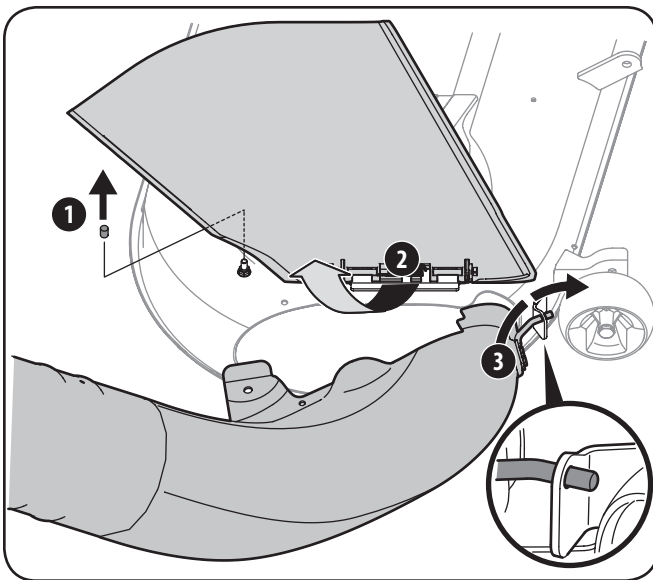

Figure 4-14
Determine if your deck is a newer model, or an older model. Refer to (1) in Figure 4-14. If your deck has a mounting stud present, then you have a newer deck model and you should refer to the instructions that follow. If no stud is present, refer to the instructions titled **On Tractors With Older Deck Configurations** later in this section.
2. If present, remove the protective cap off of the mounting stud on the mowing deck as shown in (1) of Figure 4-14.
3. With the tractor's discharge chute raised up and held open (2), install the chute elbow by placing the chute elbow mounting pin into the hole provided (3), as shown in Figure 4-14.